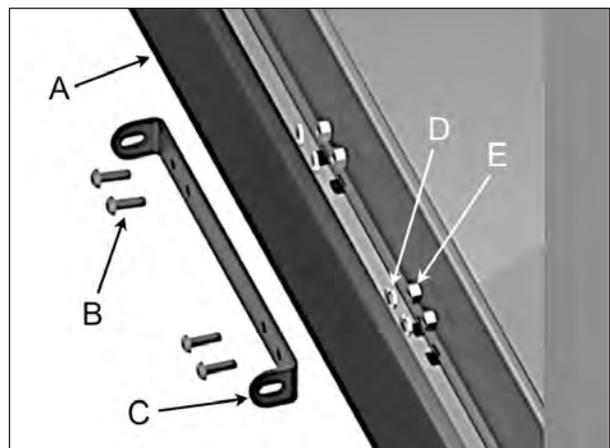

FIGURE 87: FASTEN LOWER TUB MOUNT BRACKET
21. Fasten the lower tub mount brackets on the swim spa using 1/4-20 x 3/4" button head socket cap screws, 1/4 lock washers and 1/4-20 hex nuts for all four posts. Nuts should be inside the frame see Figure 87.